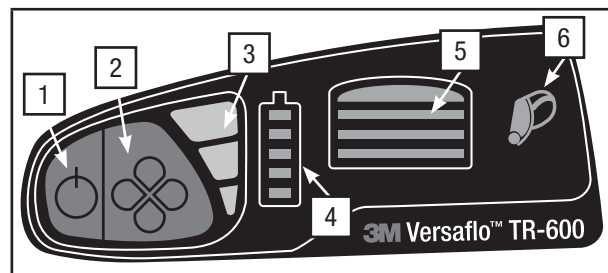

Fig. 14 – Motor/blower User Interface
- Press and hold the smaller, blue power button (Fig. 14, #1) for 1 second. The unit will turn on and perform a self-diagnostic. The flow level, filter loading and battery charge indicators will blink, and the auditory and vibratory alarm will sound. Battery indicator (Fig. 14, #4) will show current charge status of the battery pack. Filter indicator will show remaining capacity of the filter (Fig. 14, #5). **Continuous blinking and/or sounding of any alarm indicates a fault condition that must be corrected prior to use of the respirator system. If auditory alarm or visual indicators do not activate at start-up, do not use system. Remove from service and see your supervisor.**
- There are three user selectable airflow settings – standard, medium, and high flow. The motor/blower will start at the standard flow setting. Pressing and holding the larger blue flow control button (Fig. 14, #2) for 1 second will cycle the motor/blower to the next of three flow settings. One beep and flow LED on the flow setting indicator (Fig. 14, #3) indicates standard flow, two beeps and two flow LEDs indicate medium flow, three beeps and three flow LEDs indicate high flow. Pressing the flow control button cycles back to the standard flow setting.
- Press and hold blue power button for 2 seconds (Fig. 14, #1).
To conserve battery power, the display will go into 'sleep mode' after 30 seconds from the last button press. The flow speed indicator will periodically blink with the current flow setting (Fig. 14, #3). To wake up the display, momentarily press any display button.
The battery level/alarm indicator (Fig. 14, #4) displays the remaining battery charge status. This charge status indicator mirrors the charge status indicator on the battery. The number of bars illuminated indicates approximate battery pack charge status remaining: 5 bars = 80-100%, 4 bars = 60-80%, 3 bars = 40-60%, 2 bars = 20-40%, 1 bar = < 20%, 1 bar flashing = < 10%. The charge status indicator is based on the original charge capacity. It does not recalibrate as the battery ages, and the number of bars illuminated with a fully charged battery will decrease as the battery naturally loses capacity. This is a safety feature so that throughout the life of the battery the number of charge status bars lit consistently indicates approximate run time remaining (with a given system setup and filter loading). **When the low battery alarm sounds, users must immediately exit the hazardous area and replace the battery.**
The filter loading indicator (Fig. 14, #5) monitors the pressure drop in the system. Increase loading of contaminants on the filter is indicated by the progressive extinguishing of LEDs in the filter loading indicator. As the pressure drop increases the motor/blower fan speed increases to compensate. When the fan is no longer able to compensate and provide adequate airflow the motor/blower will alarm. A low flow alarm is indicated by the bottom LED of the filter loading indicator flashing RED. **When the low flow alarm sounds, users must immediately exit the hazardous area and replace the filter/cartridge and/or the prefilter/spark arrestor.**
- Continue to press your palm tightly against the end of the outlet, making a tight seal. In less than approx. 30 seconds, the unit will sound an audible and vibratory alarm, and the bottom bar on the filter loading/low flow indicator will flash red (Fig 14, #5).